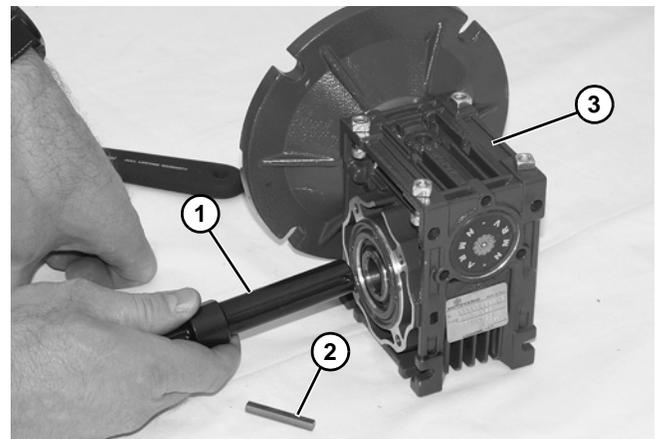

Figure 29
3. Remove driveshaft (**Figure 29, item 1**) and key (**Figure 29, item 2**).
4. Replace gear reducer (**Figure 29, item 3**).
6. Replace the original shaft components into new gear reducer (Figure 29).